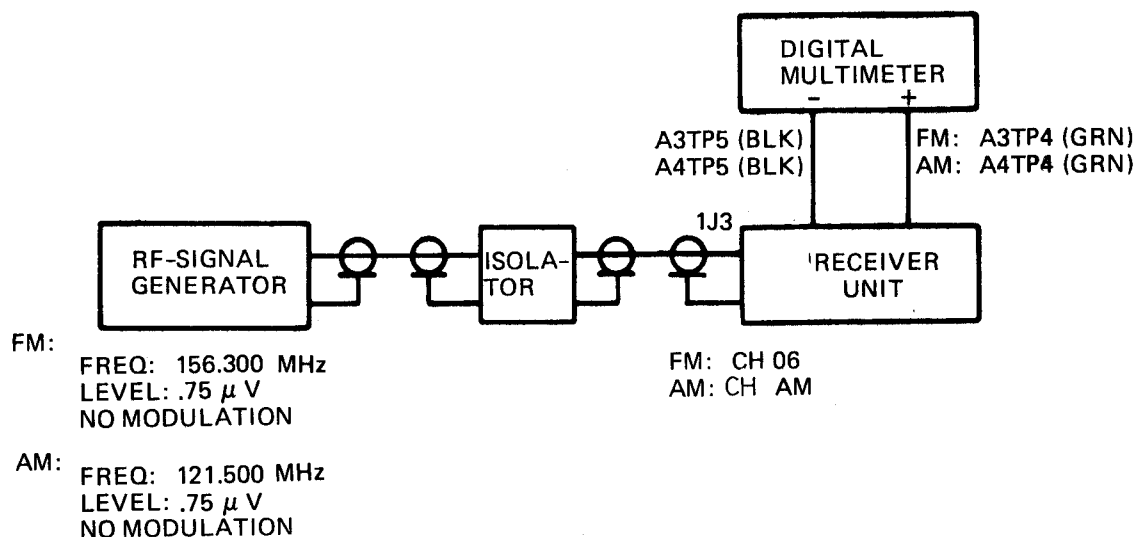

Figure 4-3. AGC Threshold Test Setup
- (a) Connect test equipment to receiver as shown in figure 4-3.
(a) Set up test equipment as shown in figure 4-3.